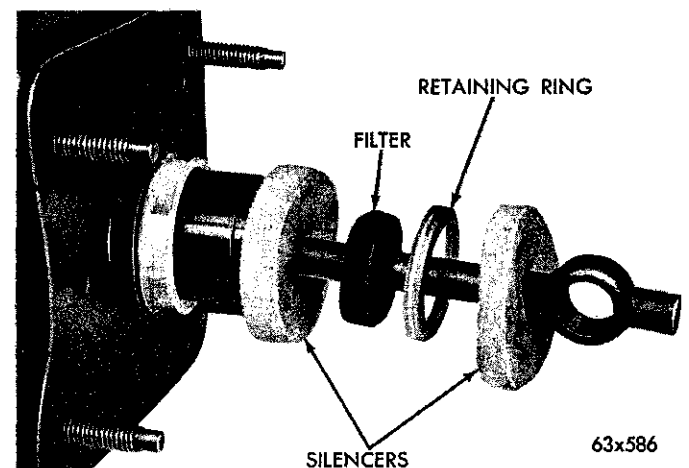

Fig. 17—Air Filters and Silencers
(3) Pry off the retaining ring on the back of the booster and remove the air filter and silencers (Fig. 17).
(4) Place the booster assembly in a vise, scribe the front and rear shells for indexing location, then remove the eight front to rear housing screws.